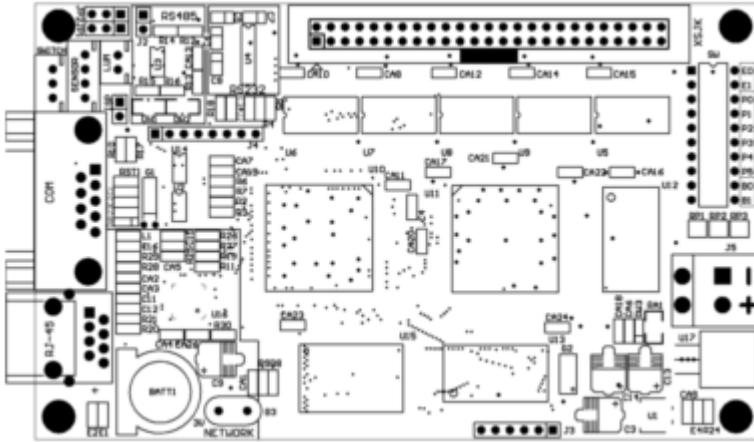

Figure 7-4
- ◆ 232/485 jump line for BX-C is in the top left of the controller(place the controller horizontally, 50 PIN interface is on the top) as shown in figure 7-4.